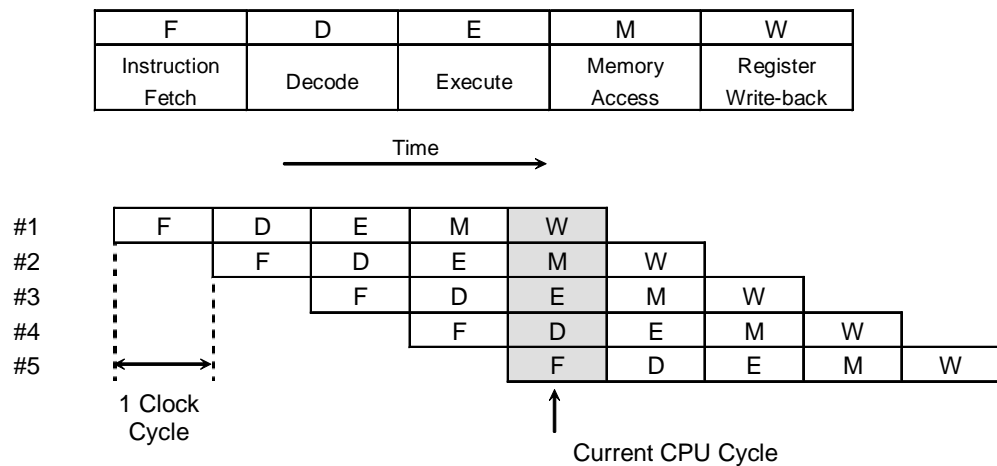

Figure 2-8 TX19A Pipeline
The TX19A has a five-stage pipeline. That is, the execution of each instruction consists of five primary stages. Each stage takes approximately one clock cycle; thus the execution of each instruction takes at least five cycles. (The JAL and JALX instructions in the 16-bit ISA mode take longer.) The five-stage pipeline divides the execution of each instruction into five discrete portions and executes up to five instructions simultaneously, as shown in Figure 2-8. The five pipe stages are Fetch (F), Decode (D), Execute (E), Memory Access (M) and Register Write-back (W). The TX19A achieves an instruction execution rate approaching one instruction per clock cycle.